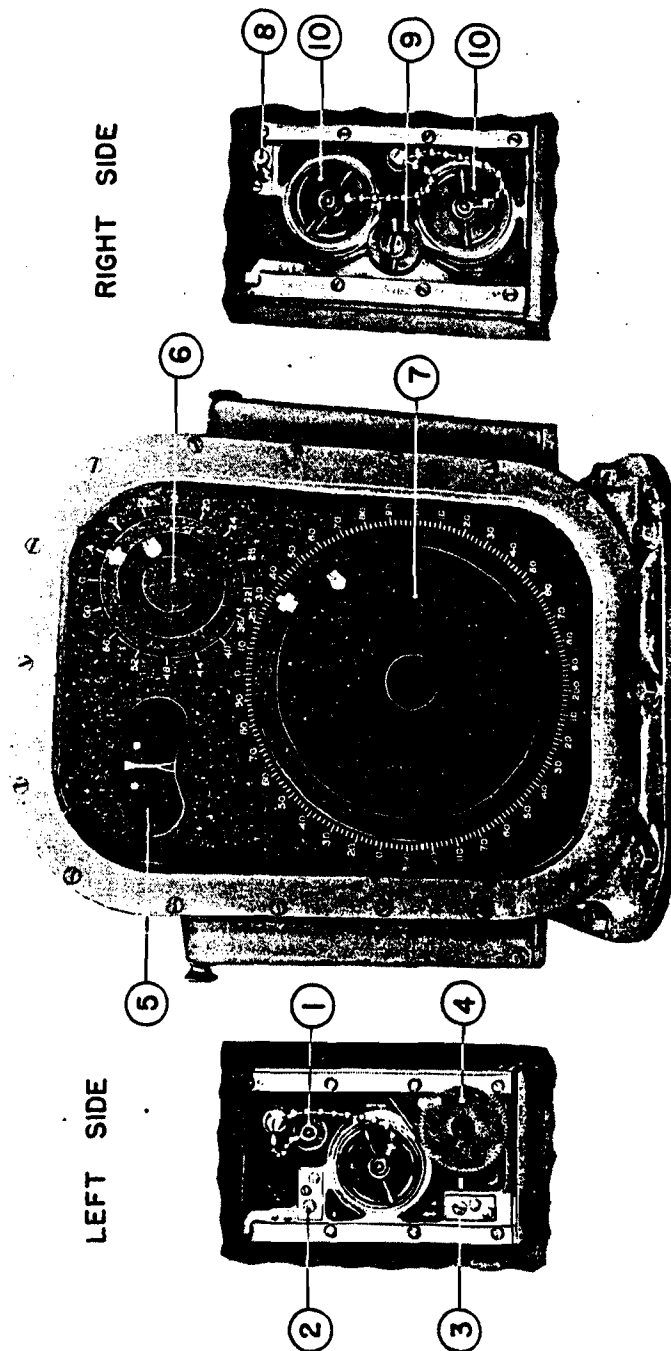
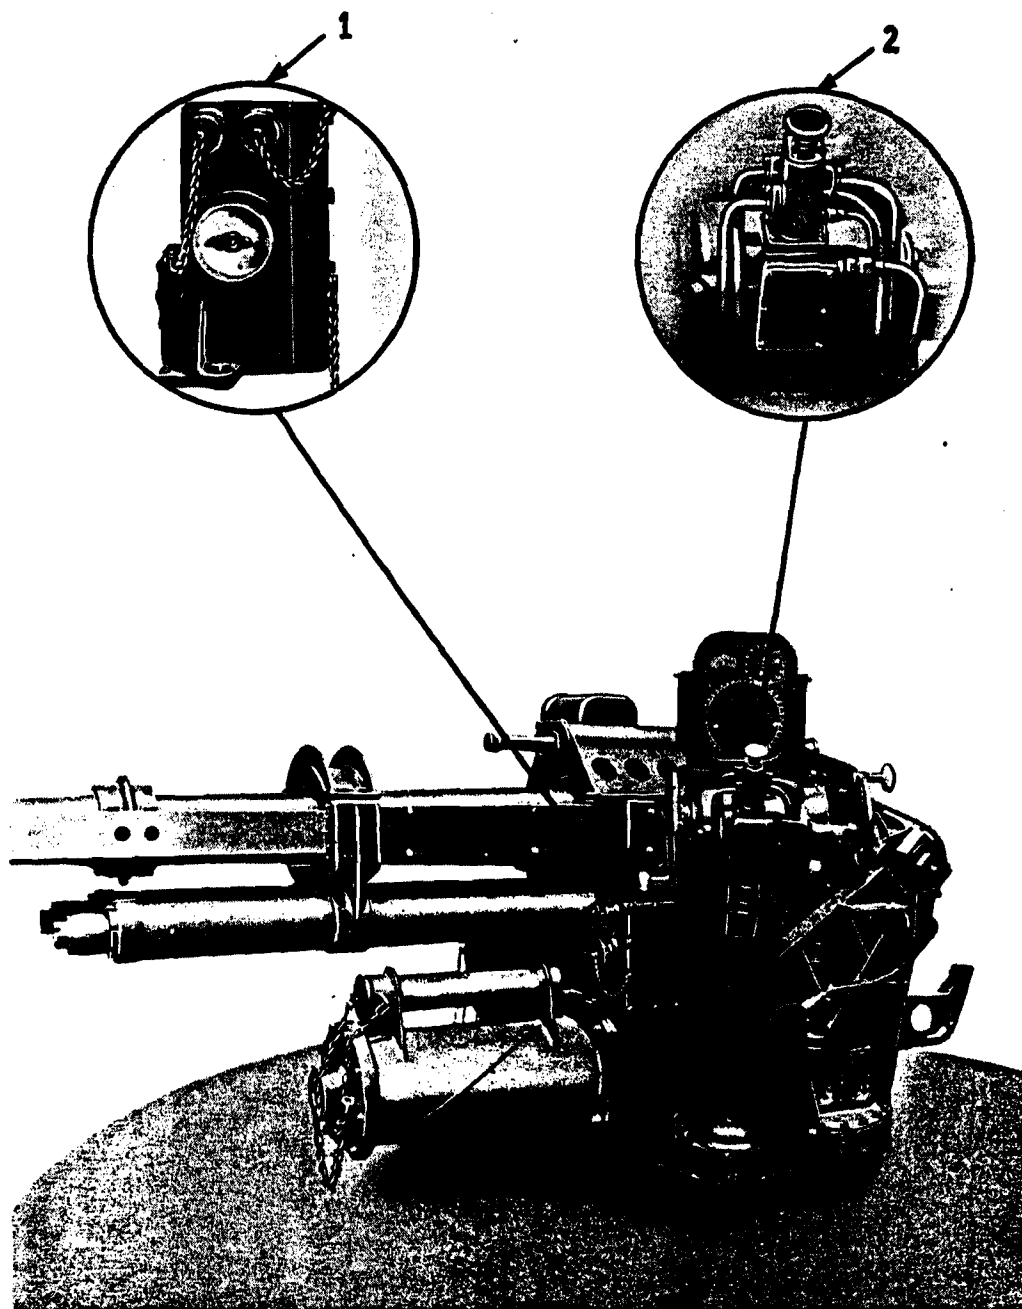
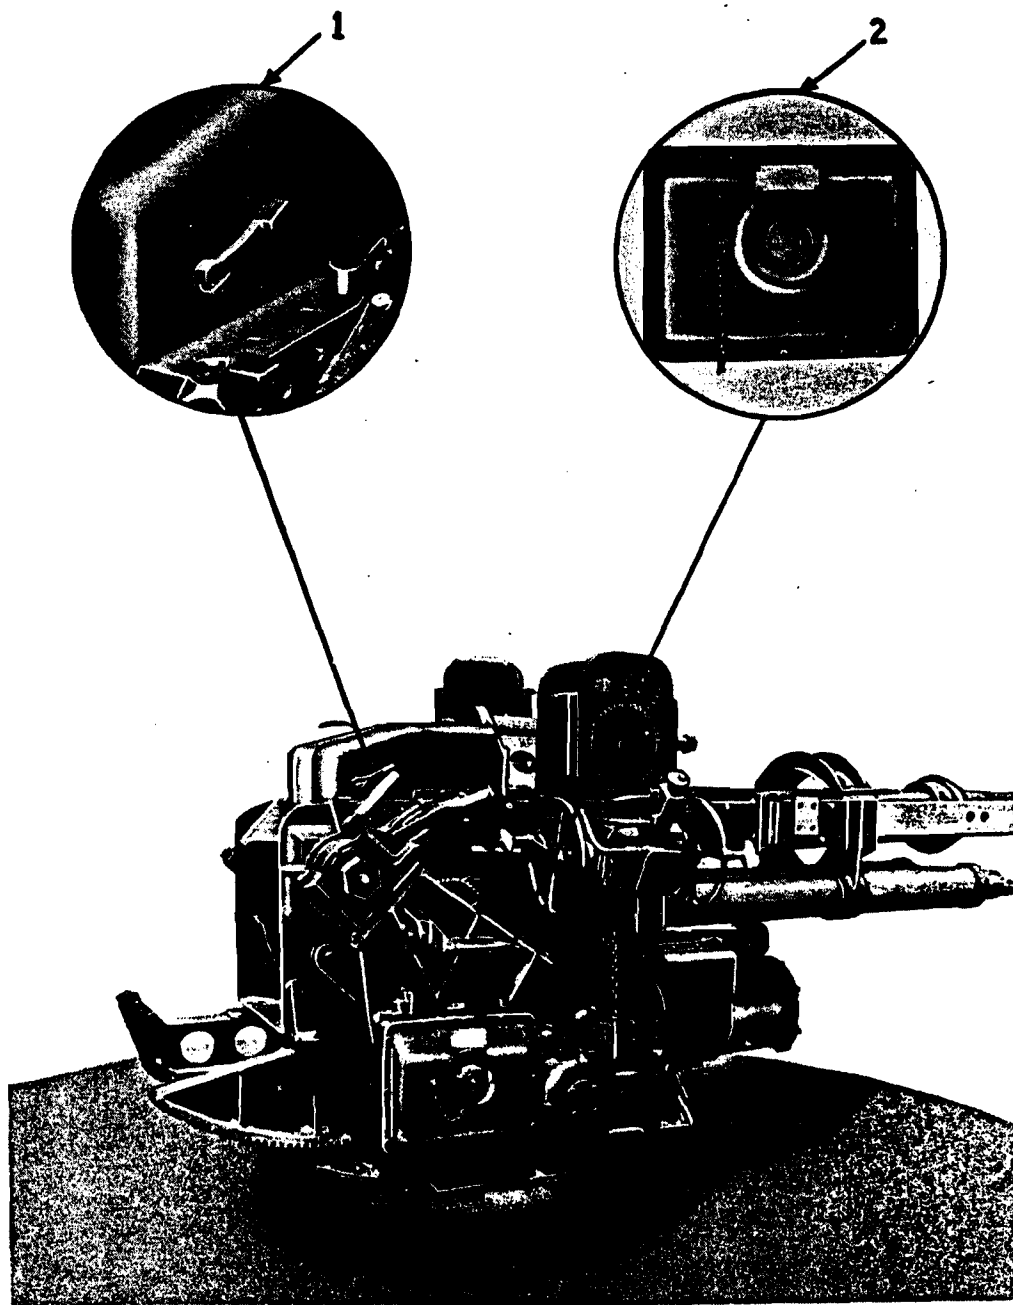

FIGURE 5.—Indicator-regulator.
FIGURE 6.—90-mm gun, left side.
FIGURE 7.—90-mm gun, right side.
(1) *Duties of No. 1 (the elevation setter) and No. 2 (the gun pointer).*—No. 1 manually elevates and depresses the gun to check smoothness of operation. No. 2 manually traverses the gun each way to check smoothness of operation. He also examines the telescope and telescope mount and checks the orientation. No. 1 and No. 2 check to see that the remote control system is working properly (described below). They check to see that the lag meters are zeroed; this must be done before the power is turned on. If the pointer on either lag meter is not directly over the white mark in the center of the dial, No. 1 or No. 2 reaches to the left side of his indicator-regulator, pulls out on the pin, and lifts the sliding cover. He then unscrews the cover of the lag meter adjusting shaft (1, fig. 5) and sets the pointer to the proper position by turning the slotted shaft with a screwdriver.
As soon as the lag meters are zeroed, the plotting room is notified to turn on the power for the data transmission system. When the indicator-regulator electrical dials are positioned, the gun is traversed and elevated manually to match the pointers. In order to put the gun in manual operation for either elevating or traversing, the corresponding transfer valve (2, fig. 6) must be pulled out, the handwheel moved toward the breech, and the manual cut-out switch (9, fig. 5) moved to the manual position. This manual cut-out switch is located under the cover on the right side of the indicator-regulator. When moving this cut-out switch from AUTOMATIC to MANUAL, it is necessary to make a 5-second pause at the mid-position. The manual cut-out switch is shown in the mid-position in 9, figure 5. The reason for this pause is to prevent dangerously high current from flowing in the fine repeater rotor. As the cut-out switch is moved from AUTOMATIC to mid-position, the fine dial (7, fig. 5) should be watched closely. If the dial pointer starts to whirl, the switch should be moved quickly back to AUTOMATIC. If this is not done quickly, the instrument will be damaged. When the fine
dial has stopped rotating, another attempt to switch from AUTOMATIC to MANUAL can be made. When moving the cut-out switch in the opposite direction, that is from MANUAL to AUTOMATIC, it is not necessary to make the 5-second pause but it is desirable and should be practiced. After the cut-out switch is in the manual position, the next step is to match the pointers exactly by manually turning the handwheels. After the dial pointers are matched, note the position of the lag meter pointers. If the lag meter pointers are not zeroed when the dial pointers are matched exactly, the corresponding synchrotransformer must be adjusted. The synchrotransformer adjusting shaft is located under the cover on the left side of the indicator-regulator (2, fig. 5). The adjustment is made by turning the screw in the proper direction. When these adjustments are accomplished and oil level checked in the A-end housing of remote control system, all personnel are notified to stand clear of the gun. The gun pointer then turns on the power switch to the oil motor. The switch for this motor is located in the gun junction box on the left side of the gun (1, fig. 6). After the motor is started, it must be ascertained whether the oil motor is functioning properly. Any unusual noise other than the operating hum of the motor indicates that it is not functioning properly. It should be stopped immediately and the trouble ascertained. With the motor operating, both No. 1 and No. 2 check to see that the pointers are approximately matched before moving their respective manual cut-out switches to AUTOMATIC. With all personnel standing clear, the handwheels are moved toward the muzzle of the gun and the transfer valves pushed in. The position of the lag meter indicators is next noted. If they are not at zero, it is an indication that the amplifier is not properly adjusted. Adjustment is made at the amplifier box (2, fig. 7) by moving the proper slotted shaft, marked AS or EL, until the corresponding lag meter is zeroed. When this adjustment is complete, the entire adjustment procedure outlined in this paragraph should be repeated as a check.
With the breech closed and the chamber of the gun empty, the chief of breech next tests the firing mechanism. The firing pin may be cocked, either by opening the breech or pressing down on the cocking lever, which is located on the right side of the breech ring. (See 1, fig. 7.)